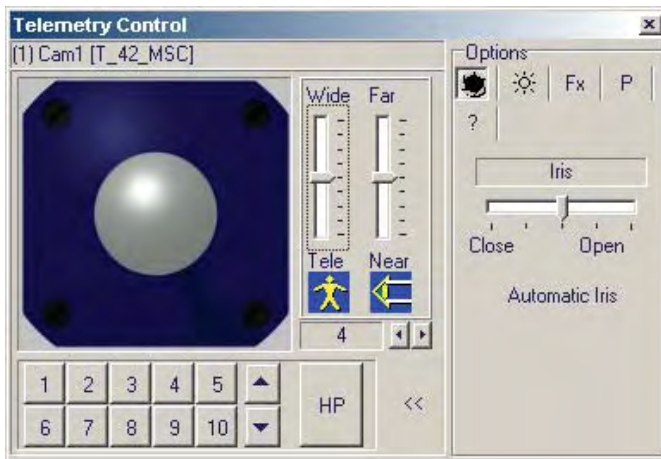

Figure 9-5: MultiView virtual joystick
- In the top menu bar, you will find the button . When you press this button, the virtual joystick appears in MultiView (figure 9-5). Now you can control ARGUS using this control element.